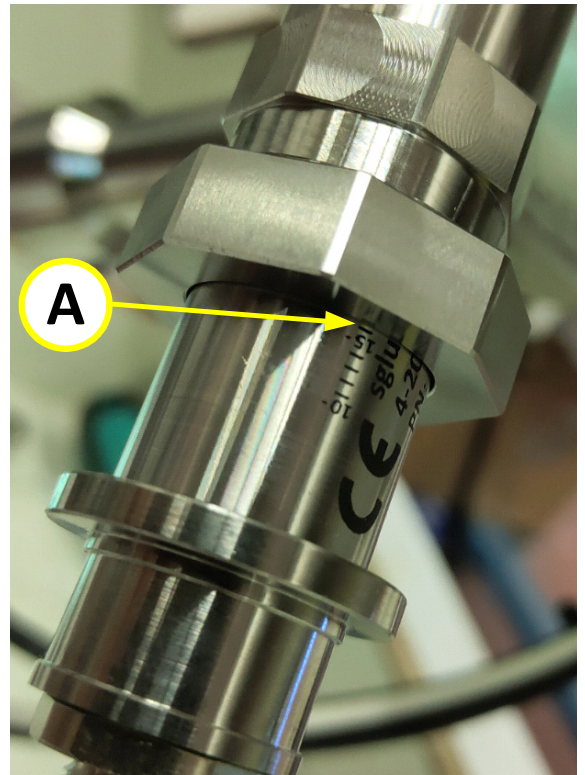

Figure 10-41: Using mm scale as position reference
- Step 1.** Before removing the UVIS sensor, look at the point where the millimeter scale on the sensor touches the securing nut (**A** in **Figure 10-41**).
- Step 8.** When you return the sensor to its place, make sure to insert it to the same reference point on the mm scale (**A** in **Figure 10-41**) recorded in **Step 1.** on page **10-152**.